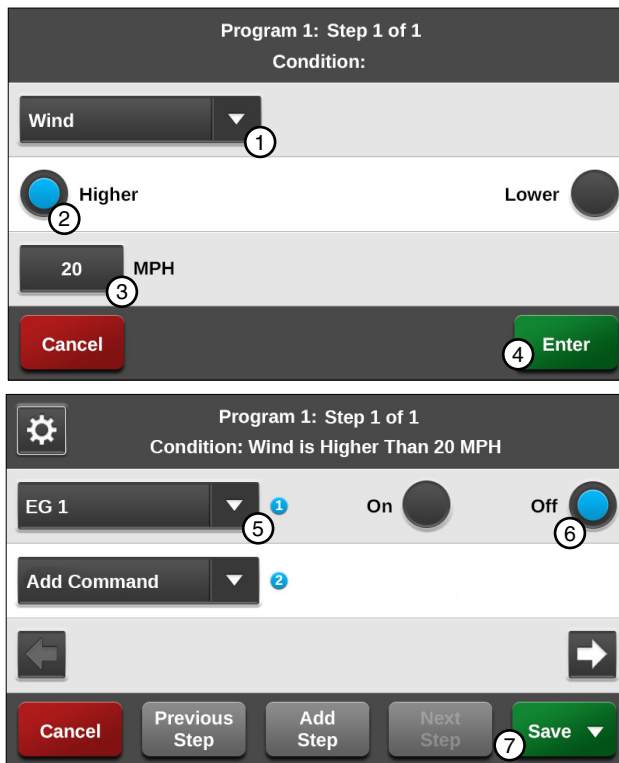

Figure 120-2 1. Wind Condition 5. EG 1 Command
3. To program using the wind condition to enable/disable the End Gun. Refer to Figure 120-2.
5. Finish the program by selecting one of the following. Refer to Figure 120-2.